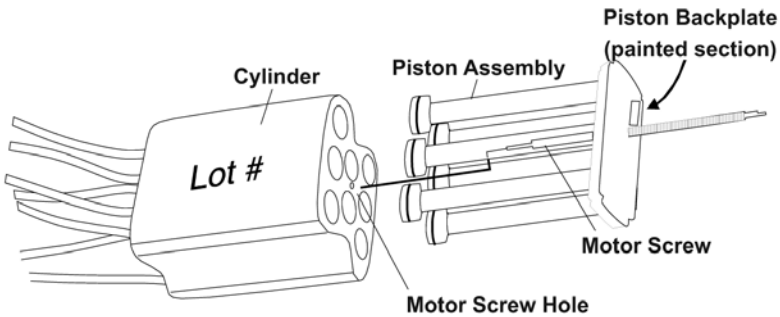

Figure F.2.3d: Reassemble Piston/Cylinder Assembly
1. Reinsert the piston assembly into the lubricated cylinder. Ensure that the motor screw engages into the hole in the center of the cylinder (see *Figure F.2.3d*).